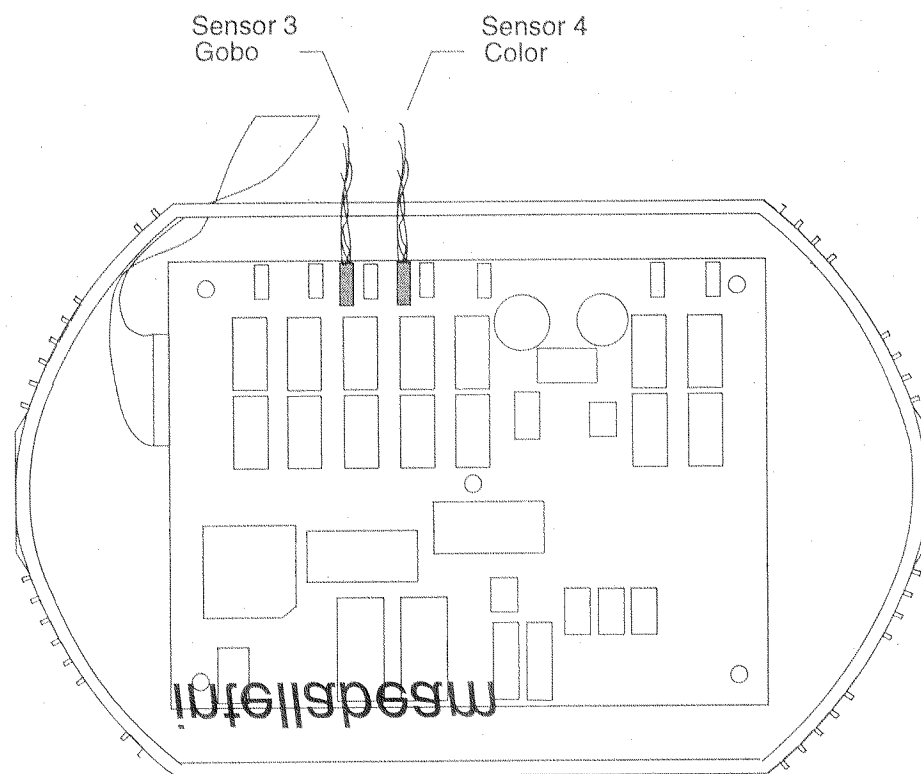

Figure 8.8. Removing Sensor Connectors from Logic PCB
7. Next, unplug the Sensor 3 and Sensor 4 connectors from the logic PCB mounted to the rear panel. Refer to Figure 8.8.
Located on the rear panel of the fixture are: the input and output data jacks, the Address and Personality DIP switches, the power switch, and the fuse holder. The logic board is mounted to the inside of this panel. Figure 8.8 shows a transparent view of the rear panel and logic board. The power supply board is mounted to the fixture body just inside the rear panel opening. The *Changing the Voltage Selection Jumpers* section in Chapter 2 show how to access the power supply board. These two boards are the only two printed circuit boards in the entire fixture, and they contain all of the electronic circuitry.